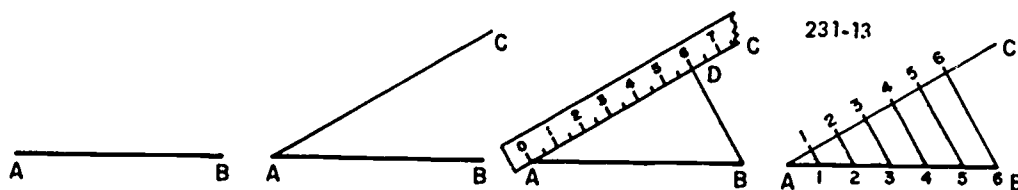

Figure 4-13. Dividing a line into equal parts.
- (1) Draw line AB which is to be divided.
- (2) From point A, draw a line any length at any convenient angle.
- (3) From point A, lay off the number of equal parts with either a scale or a pair of dividers on line AC.
- (4) From the termination point of the last space on line AC, draw a line connecting the last point with point B.
- (5) With the edge of the triangle set parallel with the last point on line AC and point B, draw lines from the points on line AC to line AB (see fig. 4-13).